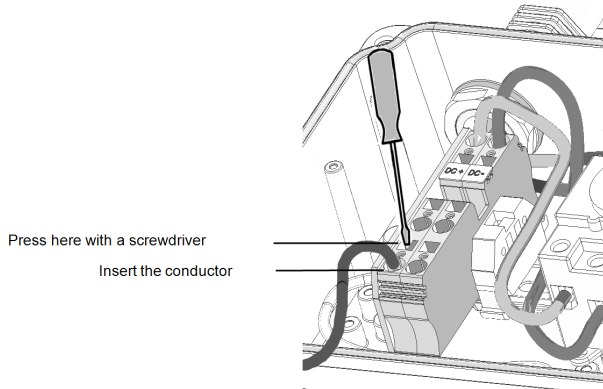

Figure 24: DC Spring-clamp terminal example - 9kW, 10kW and 20kW inverters
- Use a standard flat-blade screwdriver to connect the wires to the spring-clamp terminals. The screwdriver blade should fit freely in the terminal opening. Too large a blade can crack the plastic housing. See *Figure 24*